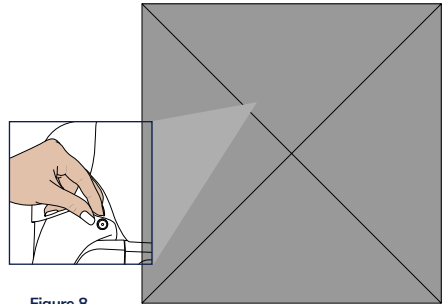

Figure 8
Step 1. At the back of the seat detach the press studs (Figure 8).